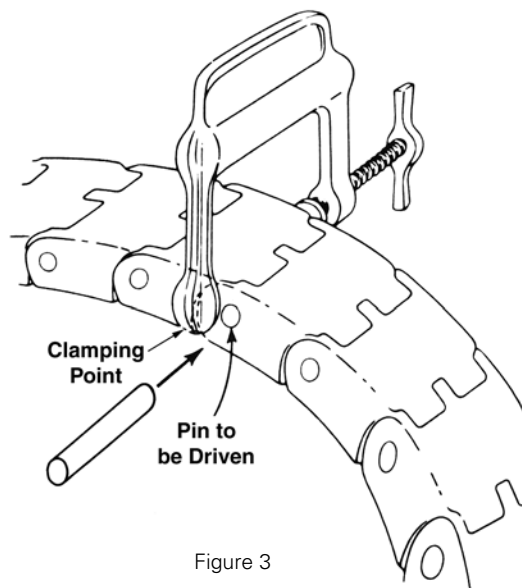

Figure 3
4. Caution must be exercised when installing the press fit groove pin to insure that the Delrin link is not damaged. Support link immediately adjacent to the pin by means of a "C"-clamp, vise grip pliers or other similar devices as shown in (Fig. 3).